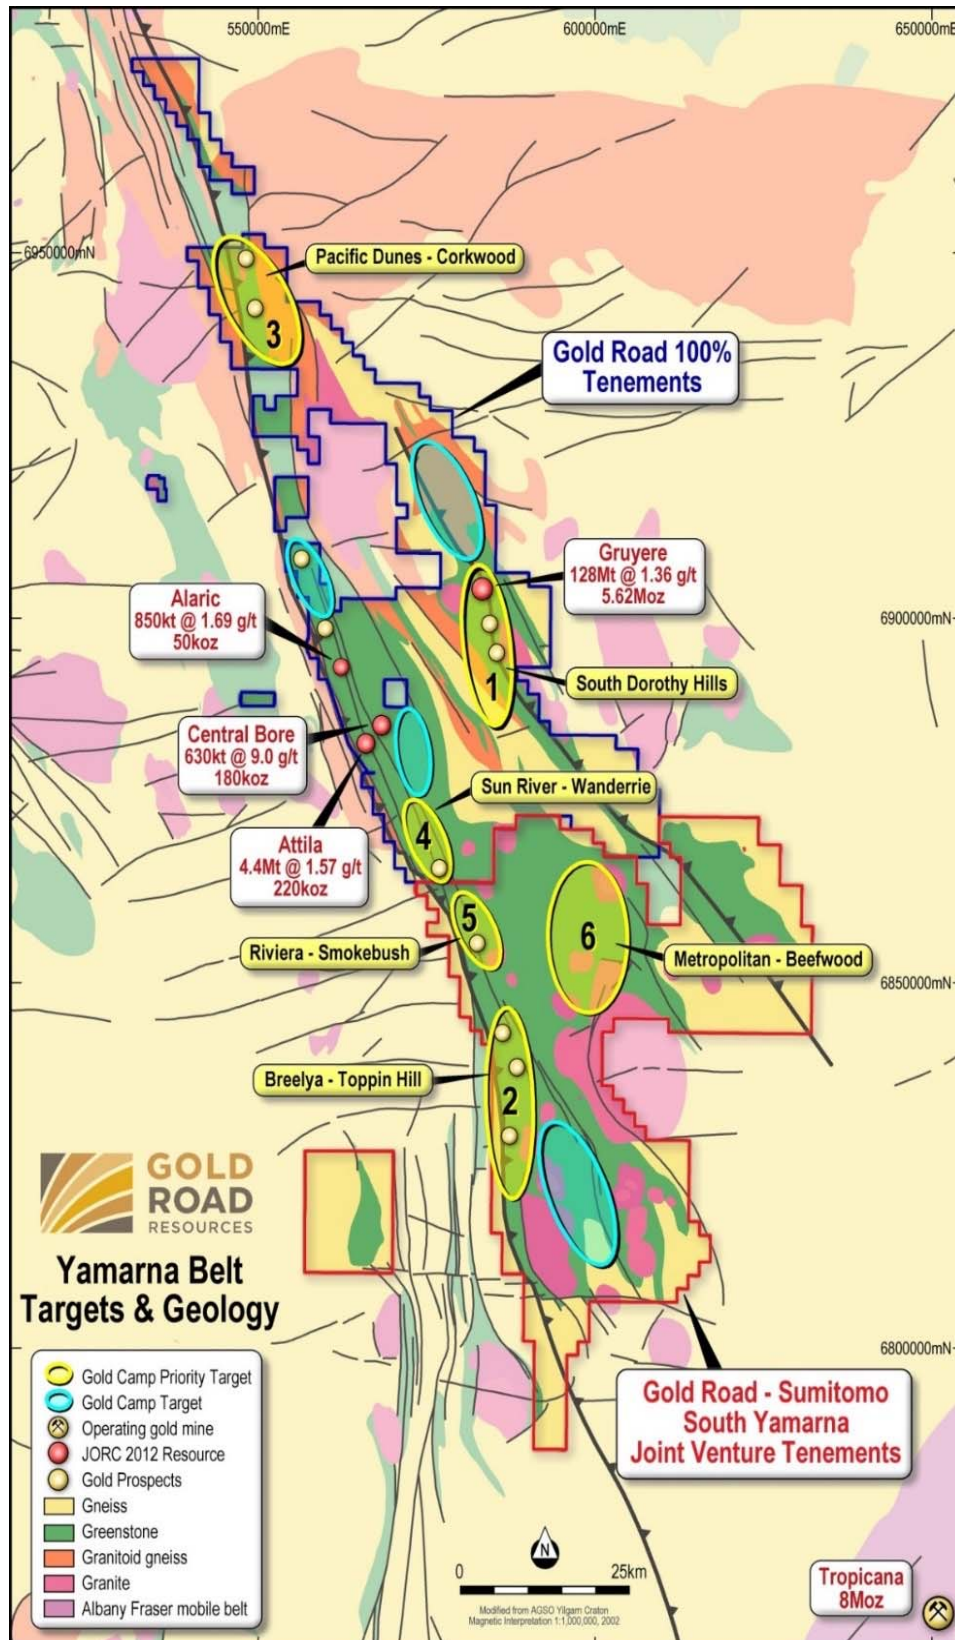

Figure 1: Gold Road 100% tenements and Gold Road-Sumitomo South Yamarna Joint Venture tenements.
A programme of infill Aircore drilling was completed in late 2015 at the Pacific Dunes-Corkwood Camp (Figure 1) testing the Ibanez and Rickenbacker targets (refer ASX announcement dated 2 November 2015). The Aircore programme of 102 holes totalled 4,632 metres.
Two diamond drill holes (15KNDD0001 and 15KNDD0002) were drilled in October 2015 at the Renegade Deposit (formerly Khan North) to test the Renegade Porphyry at depth (Figure 1). The Renegade Deposit is located approximately 28 kilometres west of the 5.61 million ounce Gruyere Project and 28 kilometres north-west of the Central Bore Project.
- 14,000 metres at **Sun River-Wanderrie** (Camp #4 – Figure 1), including 6,000 metres of RC and diamond drilling to assess the bedrock mineralisation along the Supergroup Anomaly trend and 6,000 metres of Aircore to test existing anomalies and commence testing the southern offset strike extensions of the Supergroup Anomaly mineralisation;
- 12,000 metres at **Pacific Dunes-Corkwood** (Camp #3 – Figure 1), including 6,000 metres of RC and diamond drilling to test the Washburn and Ibanez targets and 6,000 metres of Aircore to test the greater mineralisation at Washburn, follow-up work at Ibanez and commence appraising Stratocaster and Mesaboogie;